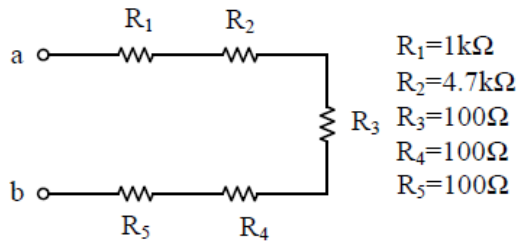

Figure 7. Voltage Divider Circuit
1. Build the circuit given in Fig. 7 on breadboard. Measure equivalent resistance seen between a and b terminals using multimeter and write the result into Table-4. Repeat this process for Fig. 8 and Fig. 9 and compare measured and calculated equivalent resistance values. Calculate absolute and % errors for each one and write them in Table-4.